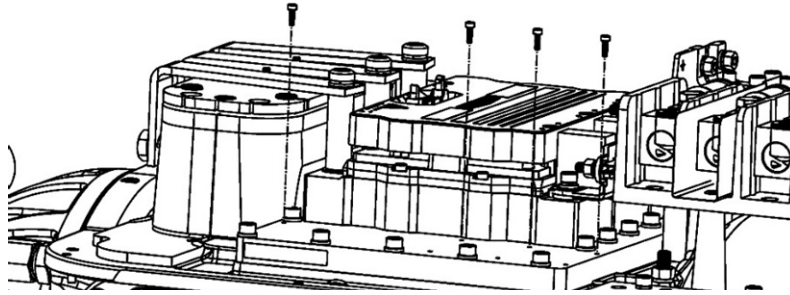

Figure 15 – Rear Potted DC-DC Converter Fasteners
- e. After the removal of the DC-DC Converter, completely remove the four (4) DC-DC Converter fasteners closest to the Inverter. Refer to Figure 15 – *Rear Potted DC-DC Converter Fasteners*.